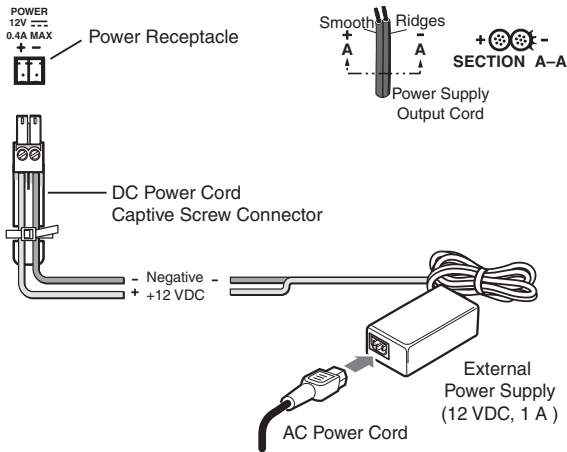

Figure 4 — Power connector wiring
- ① Video Input connector — (MDA 5V - composite video and MDA 5SV - S-video) Connect an input source to this connector.
- ② Video Outputs (1 through 5) connectors — Connect up to five video devices to these connectors. (MDA 5V - composite video and MDA 5SV - S-video).
- ③ Power connector— Plug the external 12V power supply into this 2-pole captive screw connector. The power supply is included with the unit. Figure 4 shows how to wire the connector.